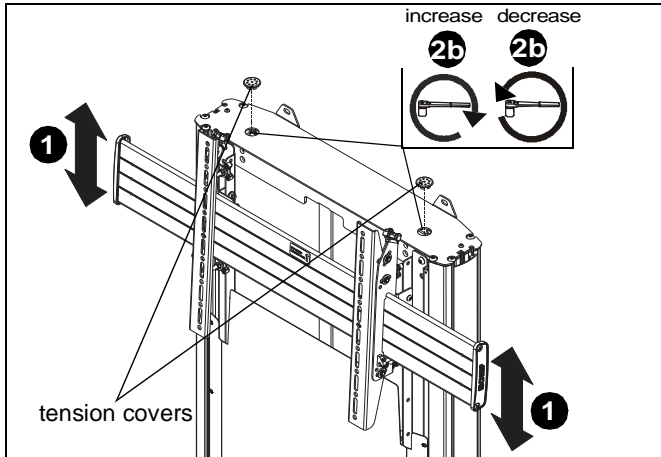

Figure 21
1. Height may be adjusted up or down by manually adjusting height of head assembly. (See Figure 21)
- a. Remove two tension covers. (See Figure 21)
- b. Use 1/2" deep socket wrench to increase or decrease tension. Turn screw clockwise to increase tension and counterclockwise to decrease tension. (See Figure 21)